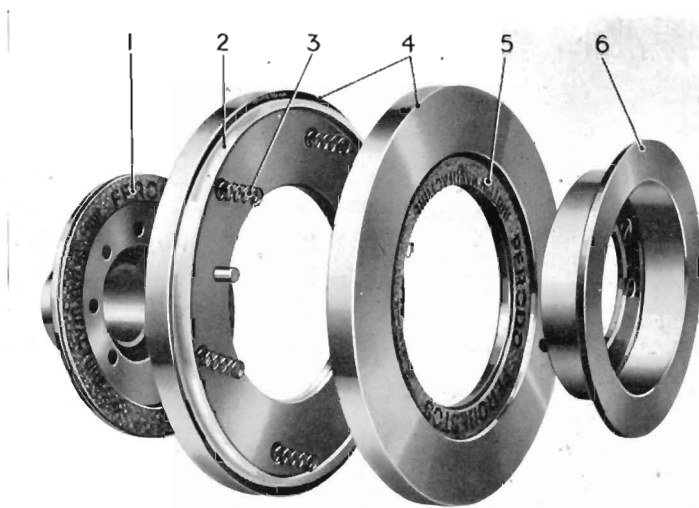

Fig. 21.
On certain models a friction type damper is fitted on the front end of the crankshaft as shown in Fig. 23. The damper consists of two loose plates (4), Fig. 21, and two rings of friction material (5) held together between two flanges (1) and (6); the necessary pressure is supplied by the coil springs (3). The unit is keyed on the crankshaft, is a press fit and is secured by a large setscrew at (2), Fig. 23, and locking washer.
dlog (1) to the inner flange and remove the dog. Release the locking washer and remove the setscrew; the unit can then be drawn off using a suitable extractor K.9034. To dismantle the damper take out the two setscrews holding the flanges together. If there is any oil on the friction faces they should be thoroughly washed in petrol. Check that the rubber dirt excluding ring (2), Fig. 21, is in good condition. When replacing, press the damper on the shaft and lock with the setscrew and tab washer.